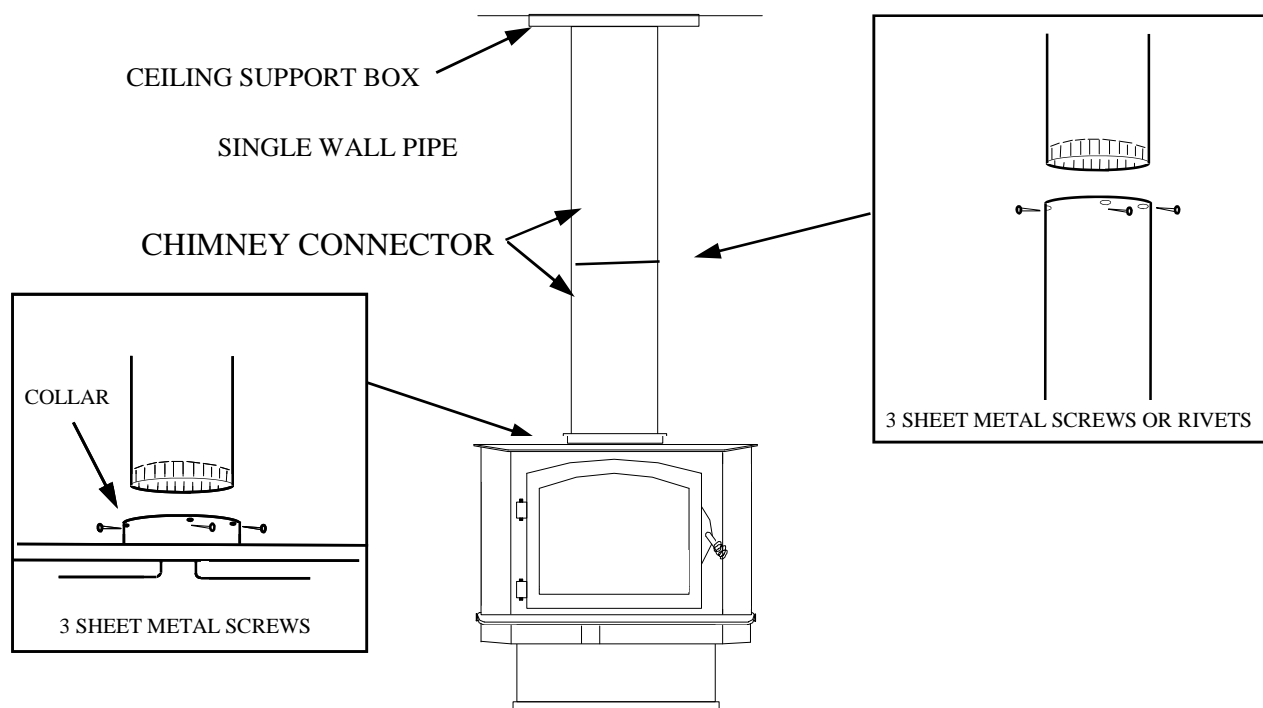

Figure 8
- (c) Secure each section to each other using at least three (3) sheet metal screws or rivets.
- (d) Use three (3) sheet metal screws to fasten pipe to connector collar on heater.
3. Now connect stove and ceiling support box using #24 ga. minimum blued or black steel connector pipe. **(DO NOT USE GALVANIZED PIPE.)** Connect each section so crimped end faces downward, and secure each section to each other using at least three (3) sheet metal screws or rivets. Next, install an optional New Buck Corporation chimney connector to flue exit of the heater or you may use "EI" brackets to fasten the pipe to stove. (See Figure 8. Page 19).